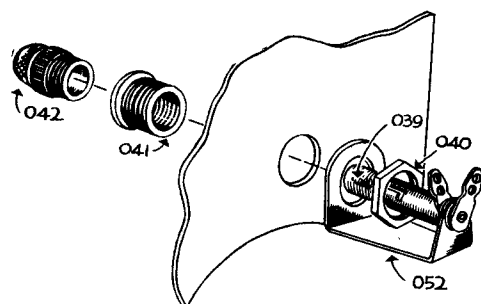

Fig. 9
- (✓) Consult Figure 9 and mount the pilot light assembly (O52, O40, O41, O42, O39) in position S.